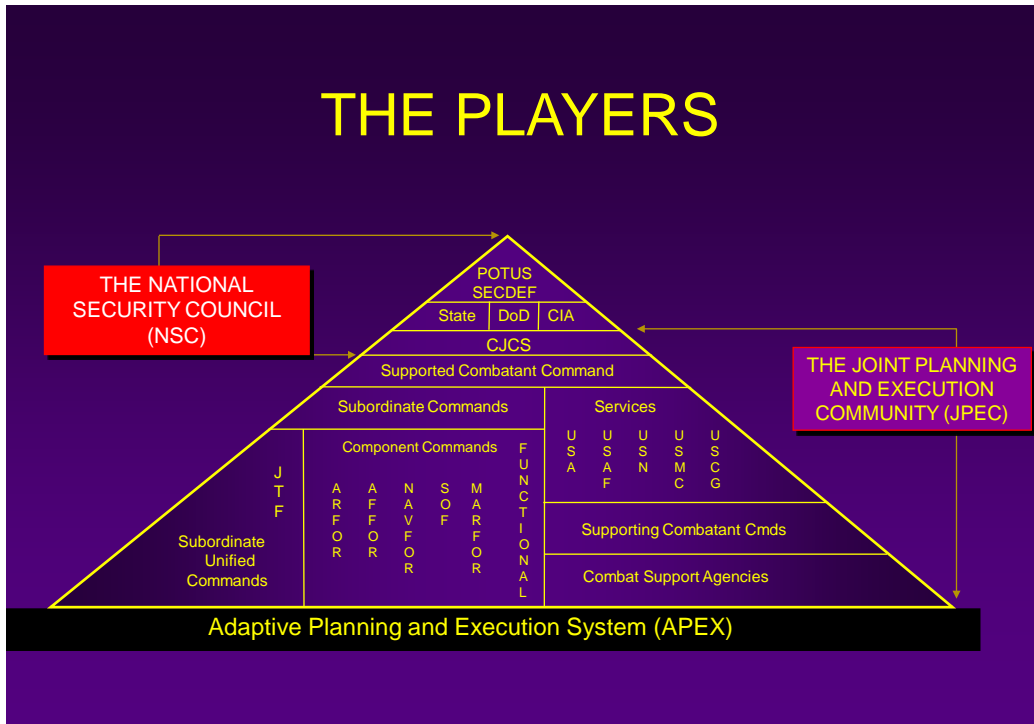

Figure 1.
The players in the planning process are illustrated in Figure 1. The National Security Council (NSC) is the President's principal forum for considering national security and foreign policy matters with the senior national security advisors and cabinet officials. For DOD, the President's decisions drive strategic guidance promulgated by the Office of the Secretary of Defense (OSD) and refined by the Joint Strategic Planning System (JSPS). To carry out Title 10, United States Code (USC), statutory responsibilities, the Chairman of the Joint Chiefs of Staff (CJCS) utilizes the JSPS to provide a formal structure in aligning ends, ways, and means, and to identify and mitigate risk for the military in shaping the best assessments, advice, and direction of the Armed Forces for the President and Secretary of Defense (SecDef). The headquarters, commands, and agencies involved in joint operation planning or committed to a joint operation are collectively termed the Joint Planning and Execution Community (JPEC). Although not a standing or regularly meeting entity, the JPEC consists of the CJCS and other members of the Joint Chiefs of Staff (JCS), Joint Staff (JS), the Services and their major commands, the Combatant Commands (CCMDs) and their subordinate commands, and the Combat Support Agencies (CSAs).